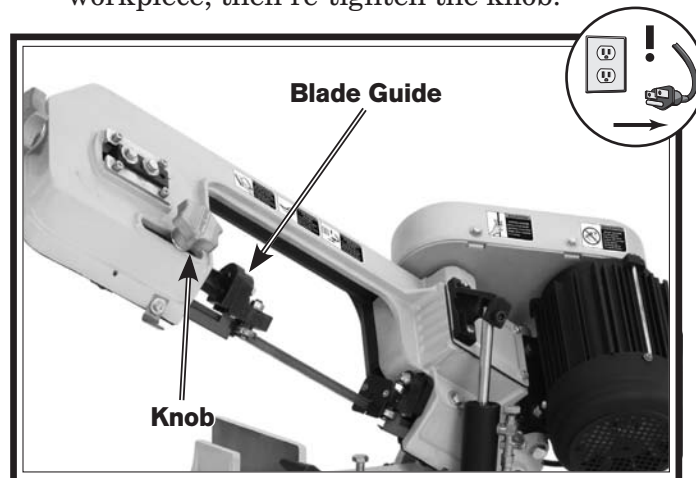

Figure 42. Blade guides.
2. Loosen the knob shown in **Figure 42** and slide the blade guide to within $\frac{1}{2}$ " of the workpiece, then re-tighten the knob.